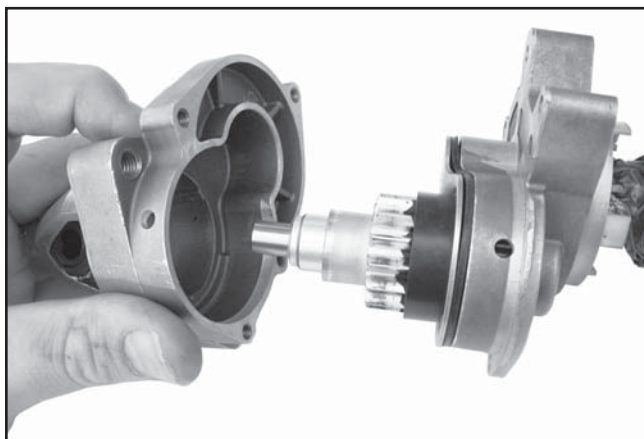

Figure 8-16. Reinstall Drive End Cap.
9. Assemble the drive end cap onto the drive pinion. See Figure 8-16.